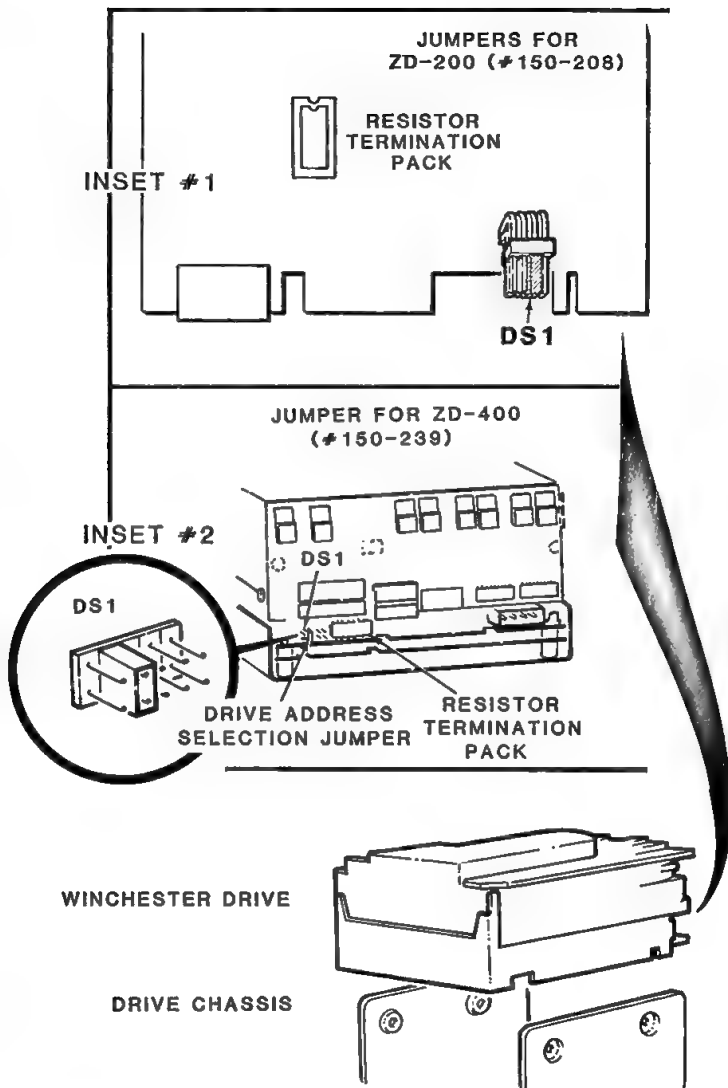

Figure 5-10: Winchester Configuration Jumpers (20M and 40M)
**NOTE:** The Winchester drive connected to the last connector on the interface cable will always be drive 0. In addition, a terminating resistor pack must be installed on the last drive attached to the interface cable (Figure 5-10). Viewed from the front of the computer, the 34-pin and 20-pin Winchester interface cable connectors should be attached to the Winchester drives with the marked end of the cable facing to the left.
Refer to Figure 5-10 for location of the drive select jumpers and terminating resistor pack for the 20M and 40M Winchester disk drives.